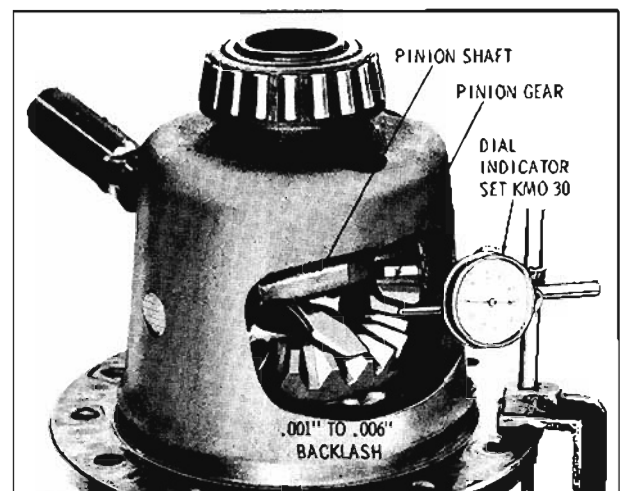

Fig. 10-42 Checking Side Gear to Pinion Backlash
- d. Install dial indicator KMO-30 with the contact button against the pinion gear. (Fig. 10-42)